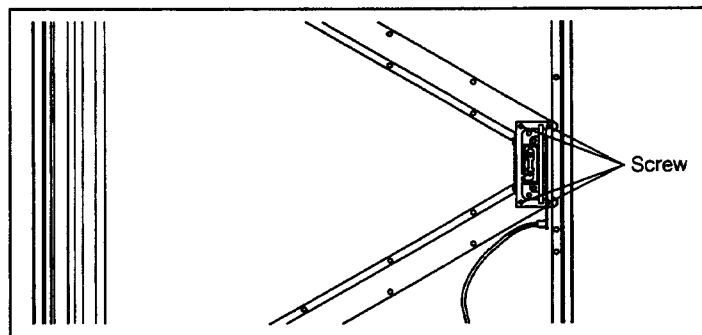

Fig. 5-27
- 4) Remove 4 screws, as shown in Fig. 5-27, and remove the CCD block (assembly).